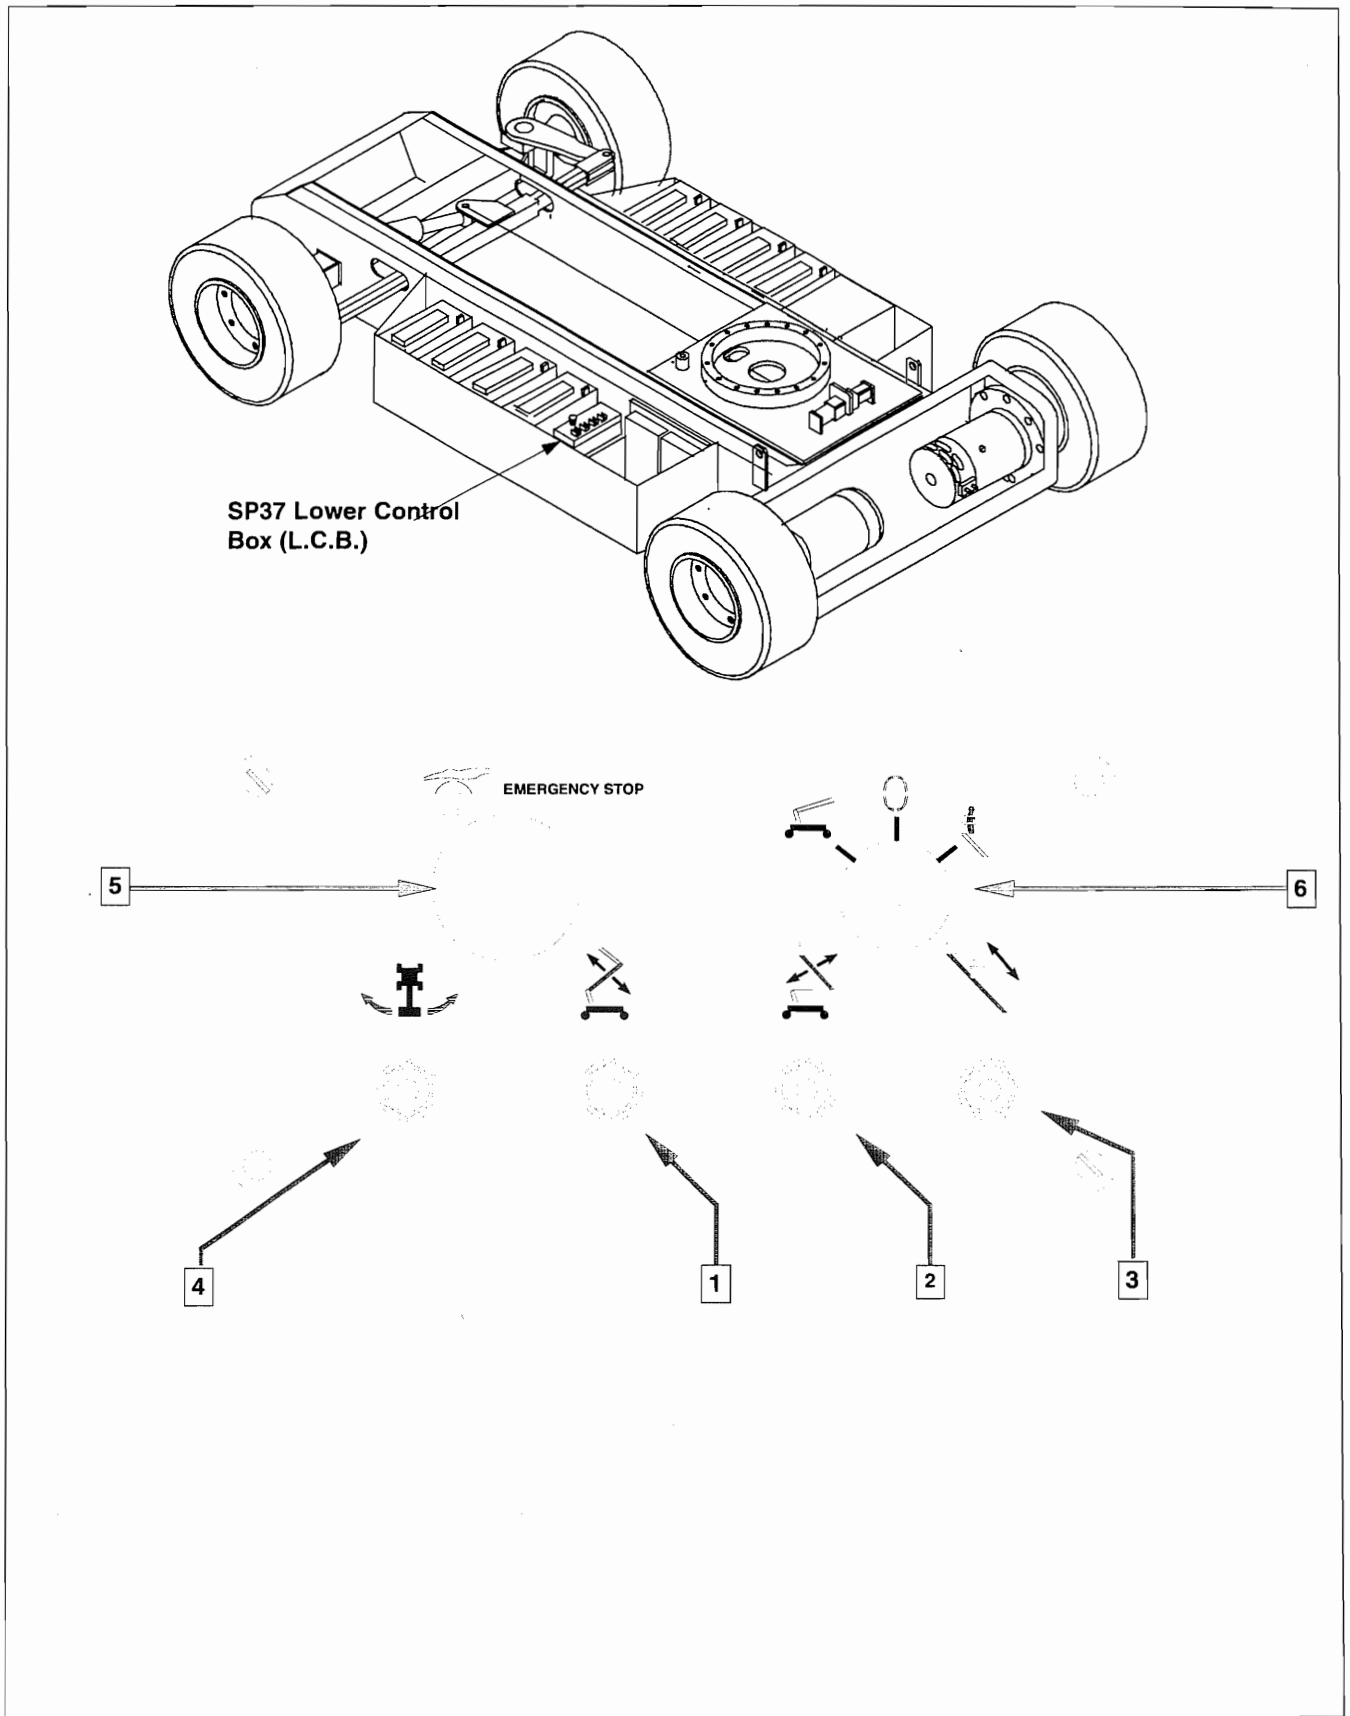

Figure 3-2: Lower Controls
8. Turn the chassis keyswitch to CHASSIS (figure 3-2).